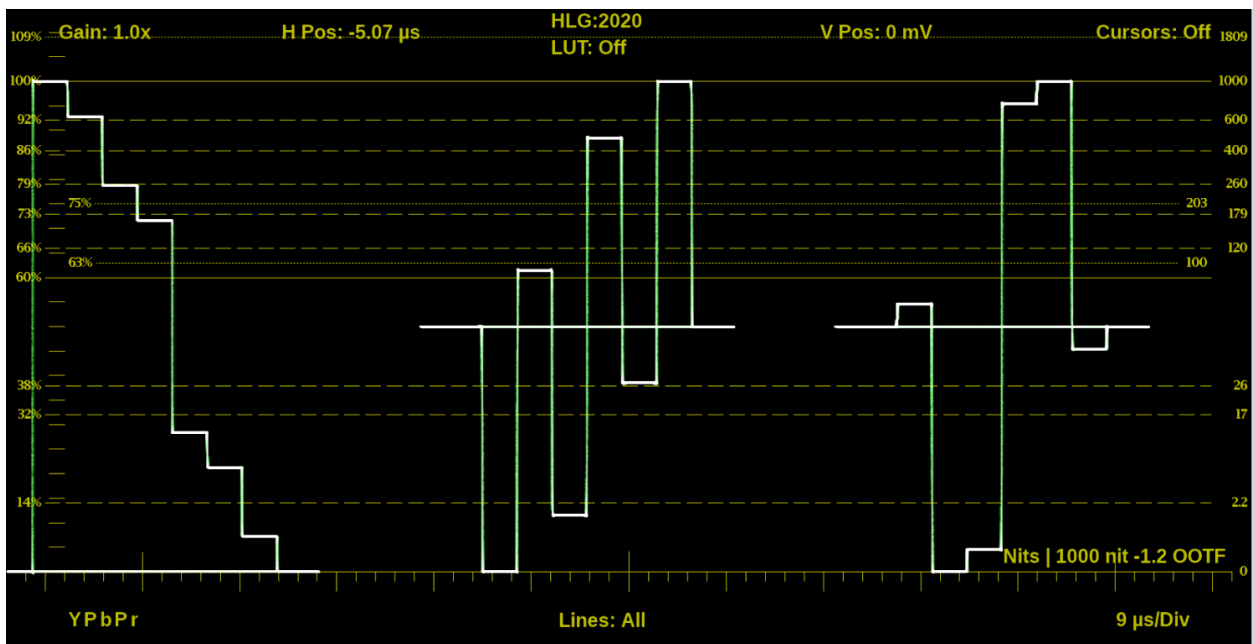

Figure 49: Waveform display with nits scale
- The Nits graticule varies depending on the Gamma selection in Input Settings menu. This is the Display light graticule and is used for mastering the content for a targeted HDR system. (See Figure 49.)